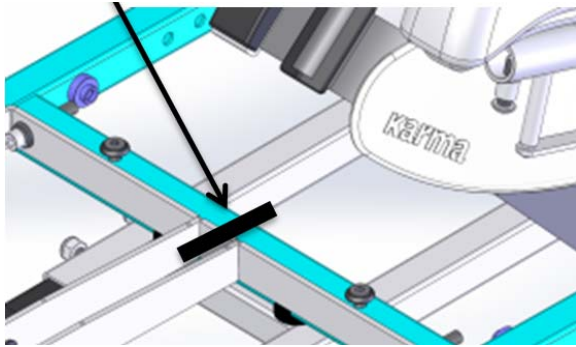

Figure 5-154
5.3.16.11 Cut the tie which is used to fasten the seat frame and the fixing base before installing the fixing bracket in the fixing base. (Figure 5-154)